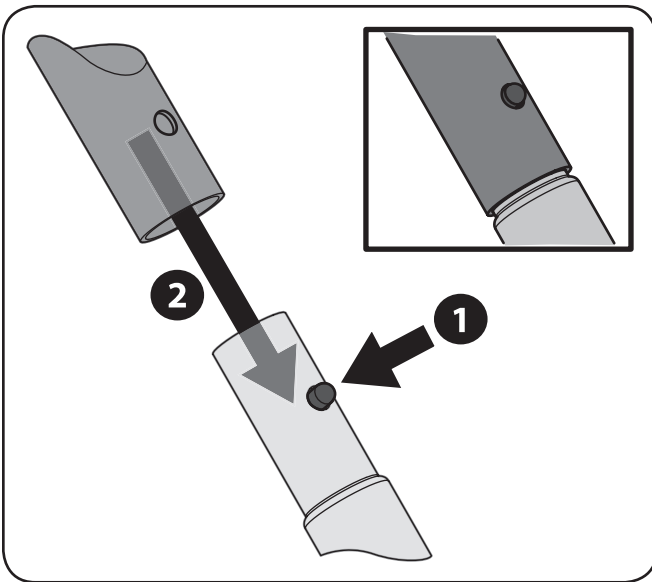

Figure 3-6
- The frame pieces connect with a spring clip inserted into the hole of the connecting part to secure each piece in place. Press down on the spring clip button and slide it inside the connecting piece until it snaps into the hole. See Figure 3-6.